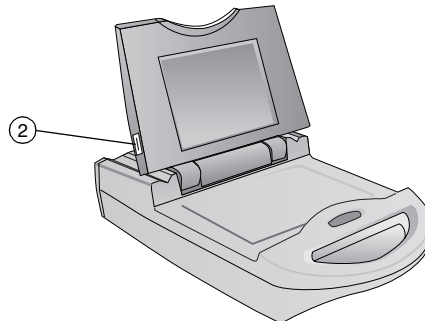

Figure 3. Insert USB Flash Drive
2. Insert the USB Flash Drive into the side of the generator (Figure 3). The USB port is located on the lefthand side of the Cardioblate® 68000 Generator touchscreen.